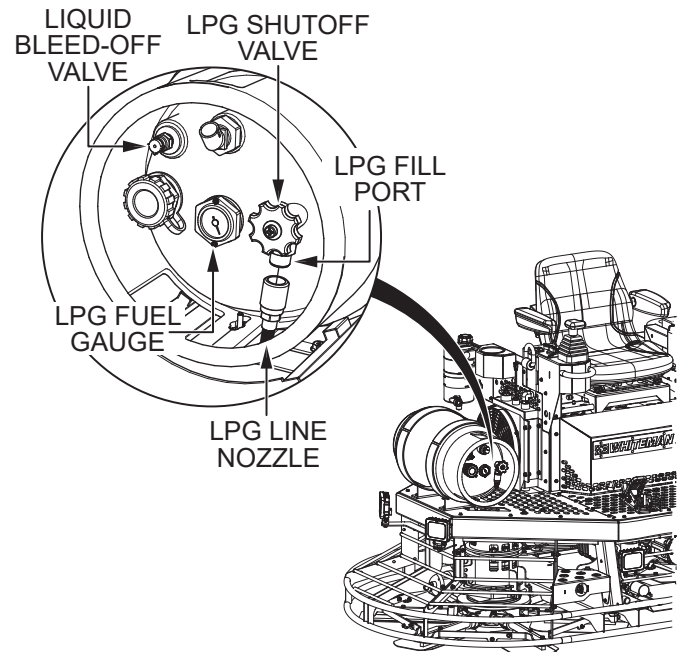

Figure 20. LPG Shutoff Valve
1. Turn the **LPG shutoff valve** (Figure 20) clockwise until closed.